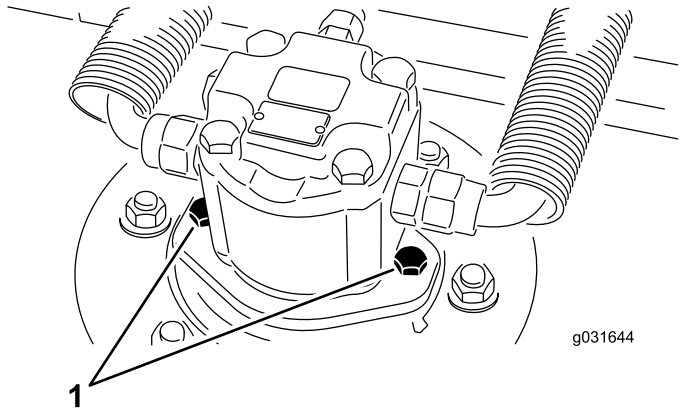

Figure 62
2. Remove the hydraulic-motor-mounting screws and disconnect and remove the hydraulic motor from the cutting unit (Figure 62).
4. Using the hydraulic-motor-mounting screws, install the hydraulic motor to the cutting unit (Figure 62).